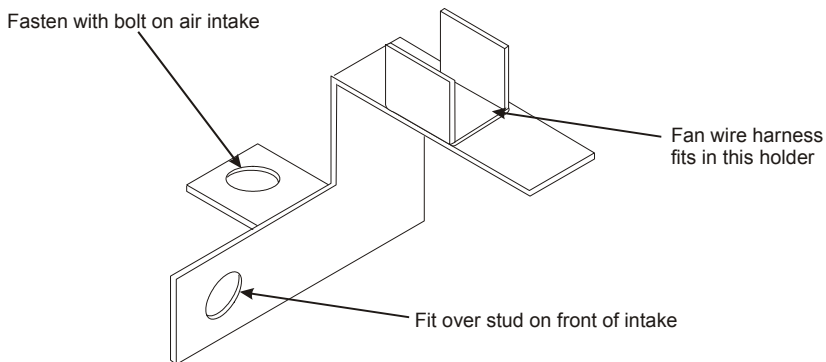

Figure 3.10
- ☐ Remove the front drivers side air intake bolt and install the fan wiring harness bracket over the adjacent stud (Figure 3.10).